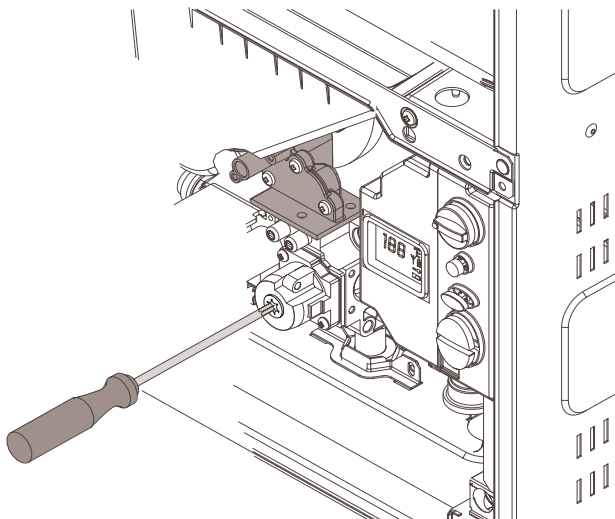

Fig. 43 Adjusting P2 CO₂ level
- ▶ Remove yellow painted #40 Torx cover from the front of the gas valve. (Fig. 43) A plastic #40 Torx screw will be revealed.